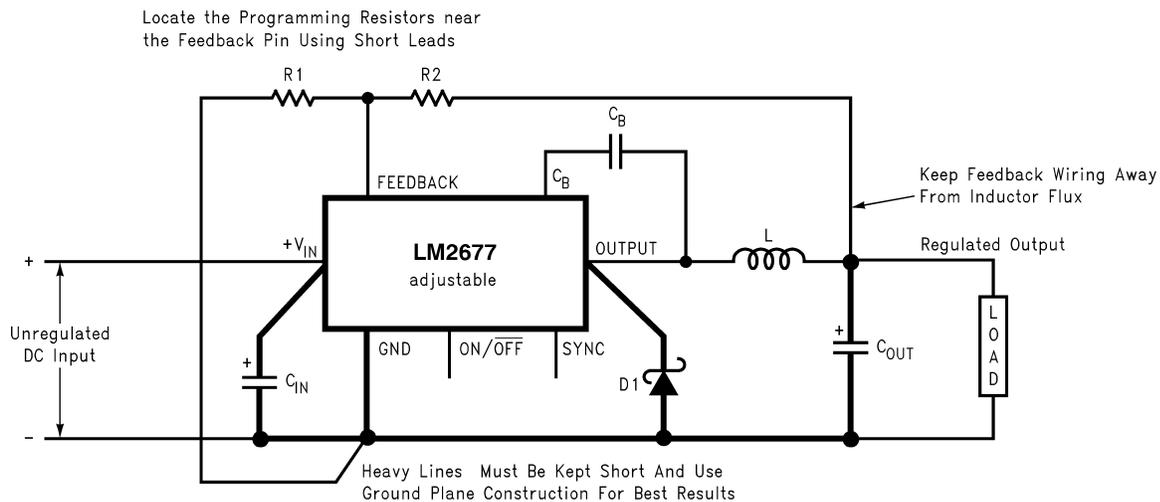

FIGURE 2. Basic circuit for adjustable output voltage applications
Step 2: Select an LM2677S-ADJ. To set the output voltage to 14.9V two resistors need to be chosen (R1 and R2 in Figure 2). For the adjustable device the output voltage is set by the following relationship: